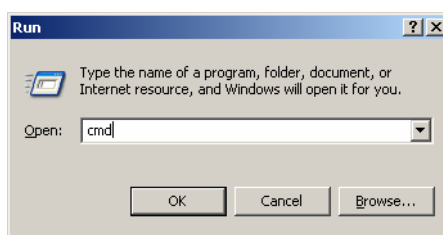

Figure 1-129. Run ... Window
- b. The "Run" popup is displayed (Figure 1-129). Type in **cmd** and click on **OK**.